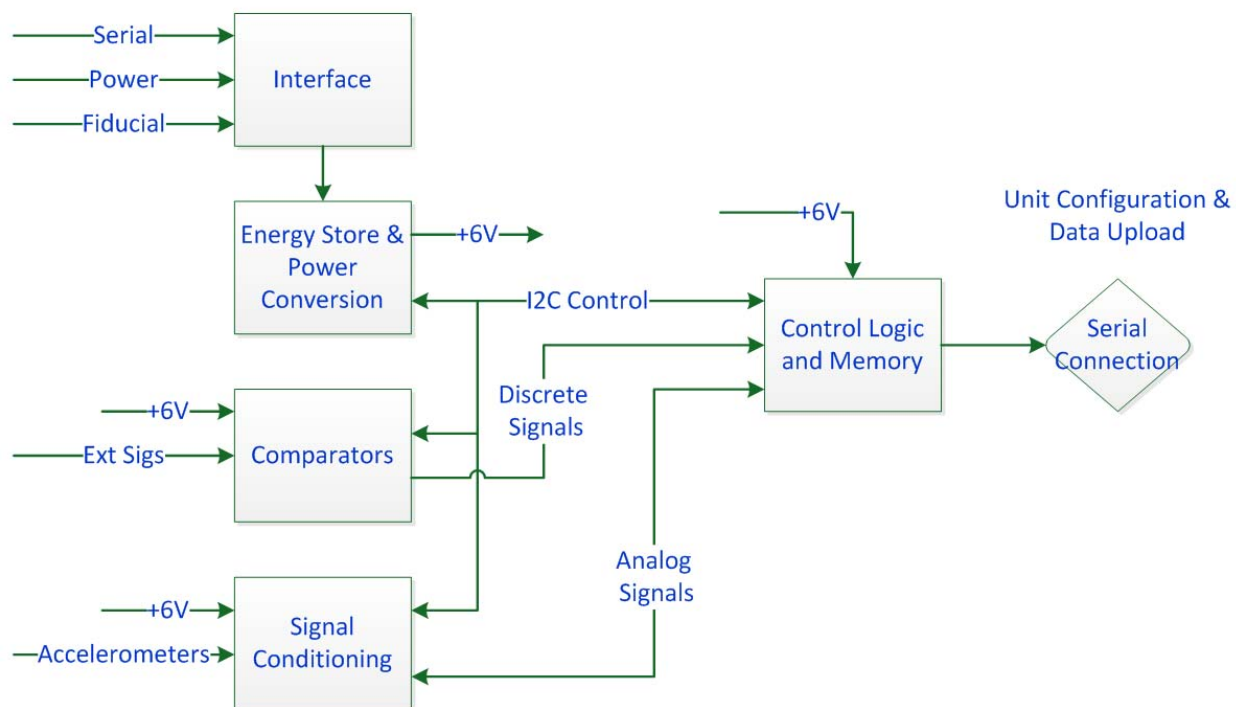

Figure 2. Block Diagram of the Anomalous Environment Data Recorder
The electronics design block diagram, as shown in Figure 2, was segmented into three circuit board types, resulting in 5 circuit boards in the AE Recorder housing because the analog / signal conditioning board is used three times with four channels each. The “Interface” and “Energy Store & Power Conversion” blocks are implemented as one circuit board, 3A6999-002 Power / Interface. A switch-mode power converter on this board reduces the capattery voltage to 6V for distribution to all other boards. The “Comparators” and “Signal Conditioning” blocks, implemented on the 3A7000-002 Analog board, accept external signals and condition them for digitization on the 3A6998-002 Digital board. The Digital board implements the “Control Logic and Memory” block, with logic in the Actel Smart Fusion gate array directing the output from the two, 6-channel Analog-to-Digital Converter chips using into either the 75 millisecond deep FRAM non-volatile circular buffer or the 210-second deep NAND Flash. The “Serial Connection” interface for configuration, command, and high-speed data extraction is also implemented on the Digital board. The concept of microcontroller-plus-FPGA logic was first employed in HiCapPen (5), but improved here with the use of a single device combining microcontroller and logic functions.